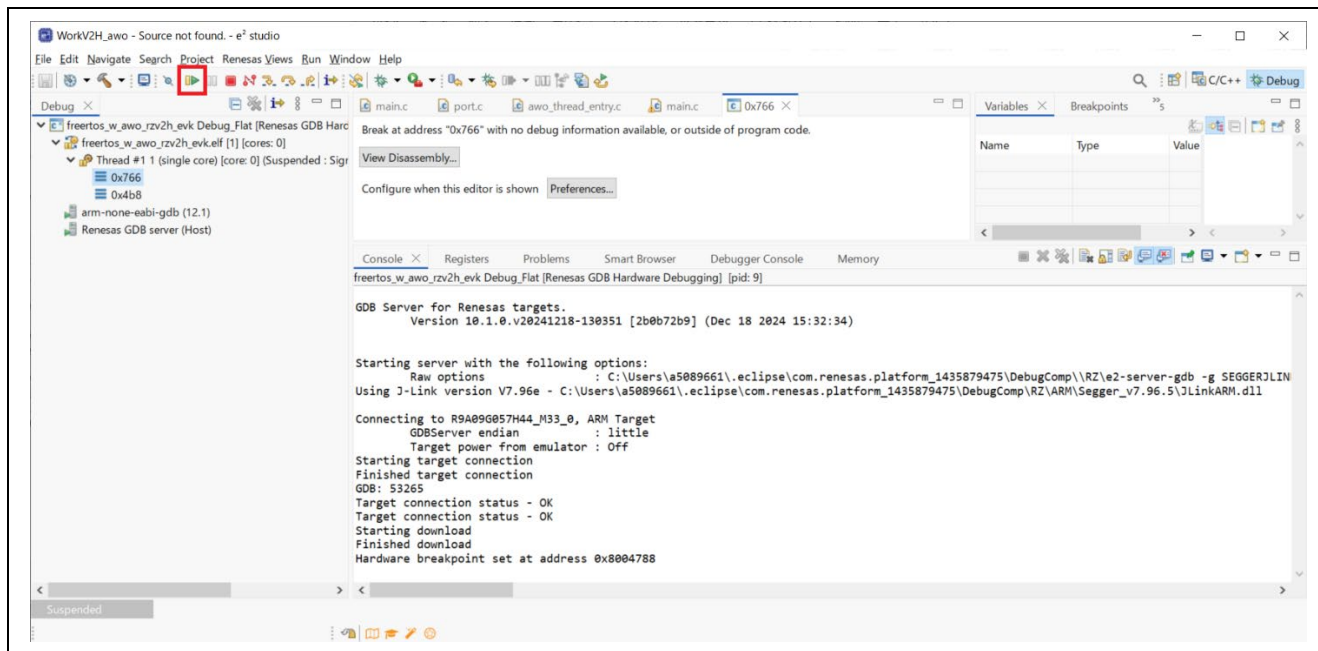

Figure 3-9. How to start to AWO Example Program (1)
4. When **Debug Perspective** is opened, Program Counter (PC) should be located as shown in Figure 3-9. Then, continue the program to push the button shown in Figure 3-9.